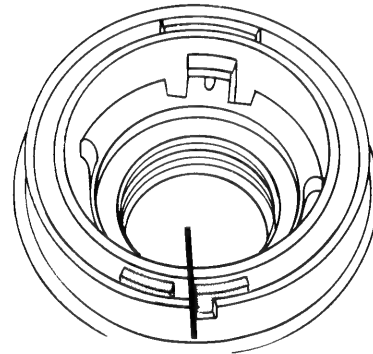

Figure 3-12. Helicoid Notch Positioning For Reinstallation of Guides
4. Back-rotate the helicoids slightly to the positions shown in Figure 3-12 and install the helicoid guides, making sure that each guide is installed in its original location. Use thread sealant on the screw threads and put the flathead and panhead screws in the appropriate holes.